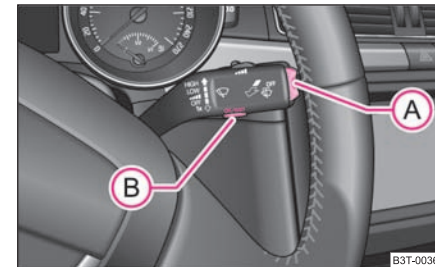

Fig. 12 Information display:
- You can activate the **MAIN MENU** by pressing the rocker switch **(A)** ⇒ page 19, fig. 12 for more than 1 second.